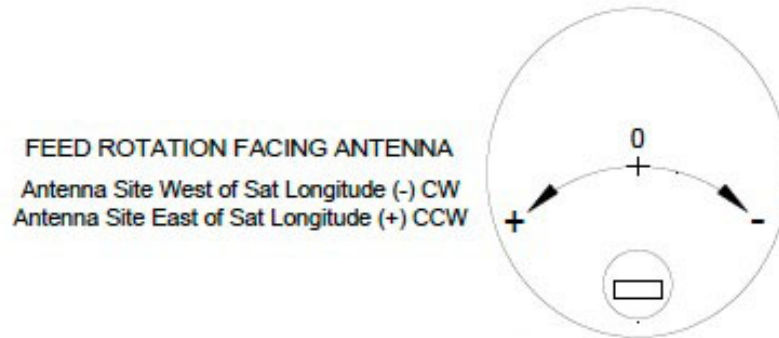

Figure 12: Polarization of the Feed
Polarization of the feed is obtained by using a 10mm nut driver to loosen the two clamp bolts and then turning the feed. Align the alignment mark on the half junction clamp (28) with the "0" (zero) mark on the feed horn scale (see Figure 12). Turn the feed assembly clockwise or counter clockwise to obtain the correct polarization setting for your location. Make sure the half junction clamp is installed with the arrow pointed toward the antenna as shown in Figure 12. Torque the bolts securing the half junction clamp to the junction block to 4 ft-lbs. maximum.